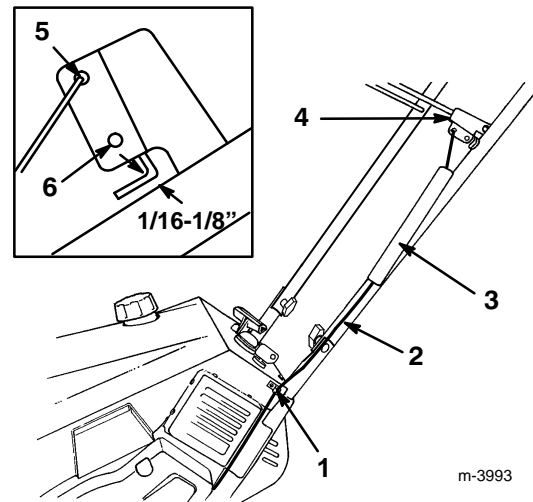

Figure 4
1. Route the control cable through the loop on the left side of the snowthrower (Fig. 4).
4. Slide the spring cover over the spring and the cable adjuster and push the spring end through the hole at the end of the spring cover (Fig. 4).
5. Hook the spring into the top hole of the control bar bracket (Fig. 4).
7. Ensure that a 1/16 to 1/8 inch (0.16 to 0.32 cm) gap exists between the control bar and the handle (Refer to the inset in Fig. 4). To adjust this gap, refer to *Adjusting the Control Cable* on page 15.